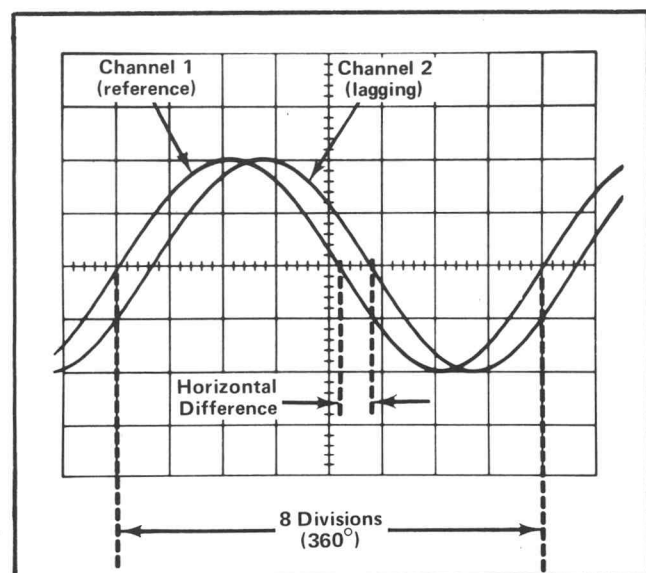
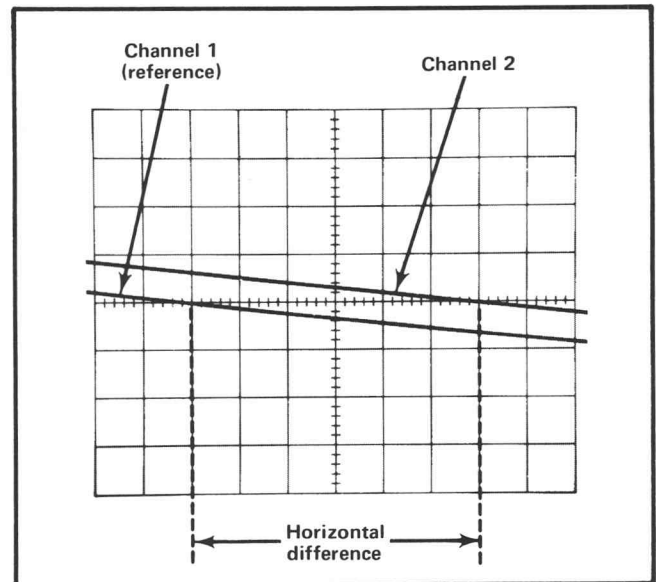

Fig. 2-16. Measuring phase difference.
Fig. 2-17. High resolution phase-difference measurement with increased sweep rate.
10. Turn the VAR TIME/DIV control until one cycle of the reference signal (Channel 1) occupies exactly eight divisions horizontally (see Fig. 2-16). Each division of the graticule represents 45° of the cycle ($360^\circ \div 8 \text{ divisions} = 45^\circ/\text{division}$). The sweep rate can be stated in terms of degrees as 45°/division.
Example. Assume a horizontal difference of 0.6 division with a sweep rate of 45° /division as shown in Fig. 2-16.
Example. If the sweep rate were increased 10 times with the magnifier, the magnified sweep rate would be $45^\circ/\text{division} \div 10 = 4.5^\circ/\text{division}$. Fig. 2-17 shows the same signals as used in Fig. 2-16 but with the X10 MAG switch pulled out. With a horizontal difference of six divisions, the phase difference is: